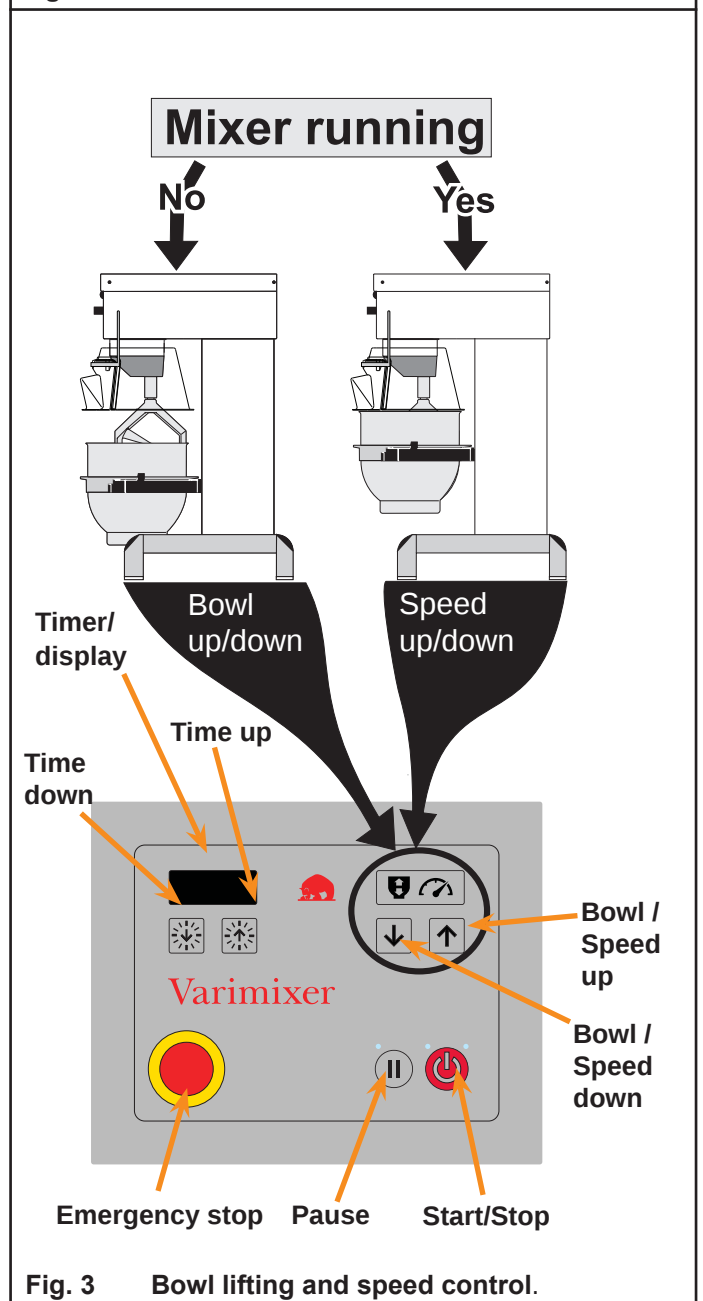

Fig. 3 Bowl lifting and speed control.
- C** Press  to lift the bowl (**fig. 3**). The bowl will automatically stop in the top position.
- E** Press  to start the mixer (**fig.3**).
The mixer's control panel has two buttons:  and , which both have two functions (**fig.3**):
- Release the emergency stop (**fig. 3**) by turning it anticlockwise or close the safety guard.